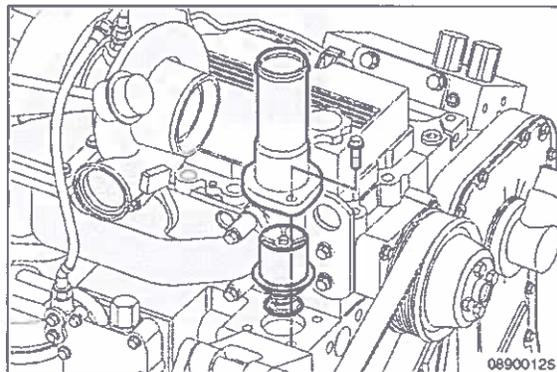

Fig. 2
5. Remove the water outlet connection capscrews and water outlet connection. (Fig. 2)
6. Remove the thermostat and discard. (Fig. 2)